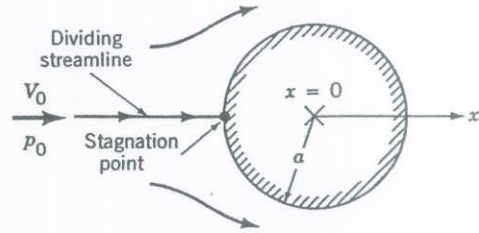

FIGURE P3.10
3.10 An incompressible fluid flows steadily past a circular cylinder as shown in Fig. P3.10. The fluid velocity along the dividing streamline ( $-\infty \leq x \leq -a$ ) is found to be  $V = V_0 (1 - a^2/x^2)$ , where  $a$  is the radius of the cylinder and  $V_0$  is the upstream velocity. (a) Determine the pressure gradient along this streamline. (b) If the upstream pressure is  $p_0$ , integrate the pressure gradient to obtain the pressure  $p(x)$  for  $-\infty \leq x \leq -a$ . (c) Show from the result of part (b) that the pres-